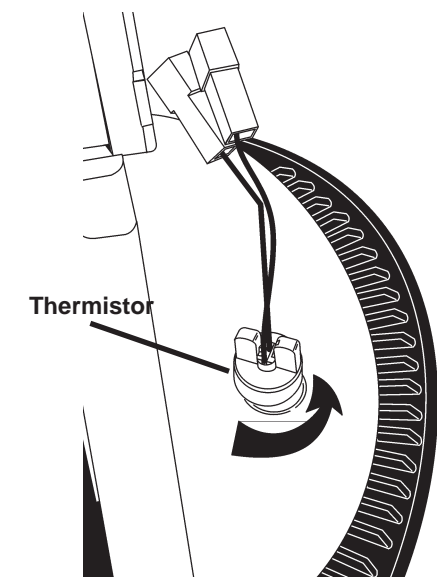

Fig. 3-22
5. The thermistor can be removed from the sump by turning it ¼ turn counterclockwise and pulling it out. (Fig. 3-22) The thermistor can be removed without removing the sump assembly from the tub. **NOTE:** Make sure water is completely drained from sump.